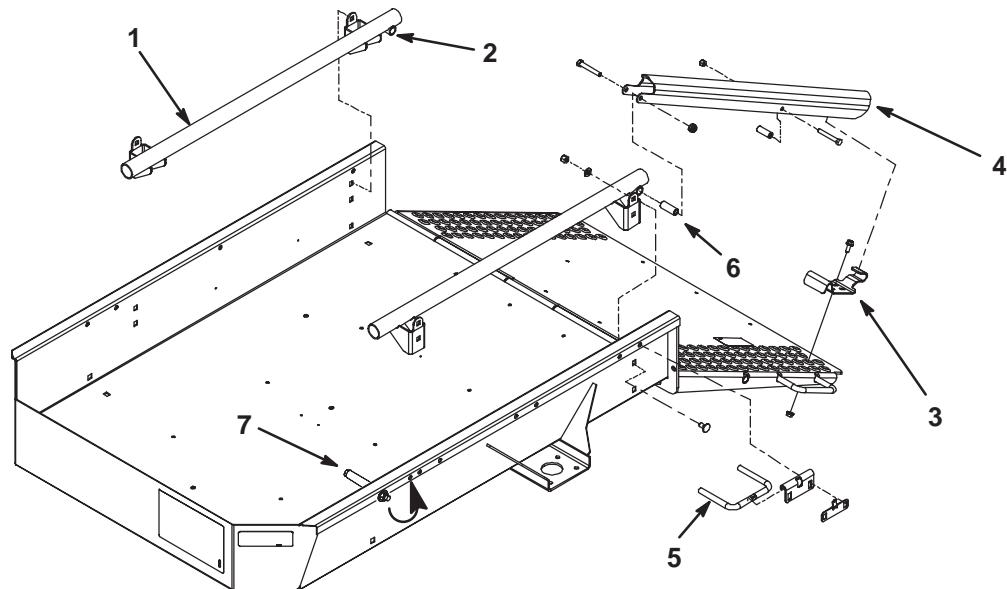

Figure 1
- Secure tube assembly mounting brackets to square holes in each side of trailer with (4) carriage bolts, flat washers and locknuts (Fig. 1). Position tube assemblies so small cross tubes are to the rear.
- Using tube assembly mounting brackets as templates, locate, mark and drill (3) .390" dia. holes in side of trailer.
- Secure tube assembly mounting brackets to side of trailer with (3) 3/8-16 x 3/4" capscrews (in place of carriage bolts), flat washers and locknuts.
- Mount a load ramp to the rear of each tube assembly with a 3/6-16 x 2-1/2" lg. capscrew, spacer, washer and locknut (Fig. 1).
- Position a locking bracket onto each side of ramp so they align with underside of load ramps, engage with coated pins in load ramps and aligns with holes in ramp (Fig. 1 & 3). Only one set of mounting holes is used per locking bracket.
- Loosely mount each locking bracket to ramp with 5/16-18 x 3/4" lg. flange head screws and flange nuts (Fig. 1 & 3).
5. Raise and lock ramp. Adjust locking brackets so they are engaged on pins and tighten flange screws and nuts (Fig. 1 & 3).
6. Remove fasteners securing trailer stops to each side of trailer and move backward to next set of holes and re-install (Fig. 1).
7. Remove existing wheel rods and brackets from each side of trailer (Fig. 1).
8. Mount new smaller wheel rods to front and rear sets of mounting holes in each side of trailer, using brackets and fasteners removed (Fig. 1).